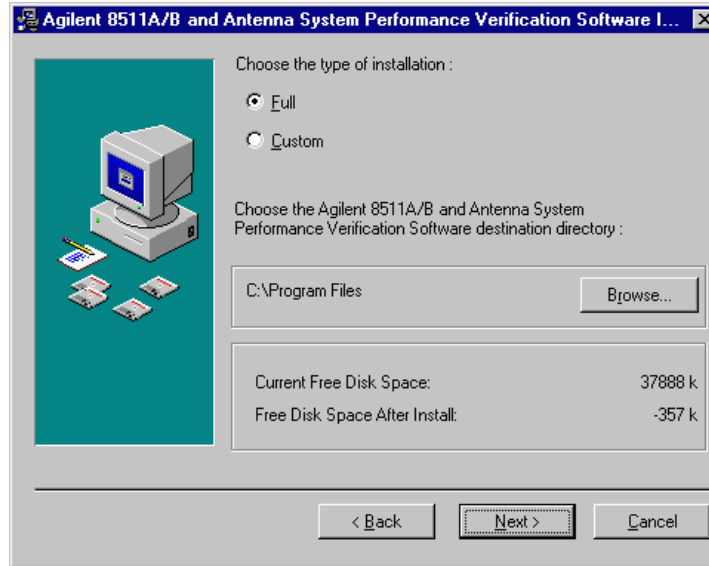

Figure 4 Choose Installation Destination Window
8. The **Agilent/HP Antenna System Verification Software Installation** window is displayed. Select the **F**ull or **C**ustom installation radio button (**F**ull is recommended). Choose the default destination directory or click **B**rowse to locate a different directory for the software installation. See Figure 4.